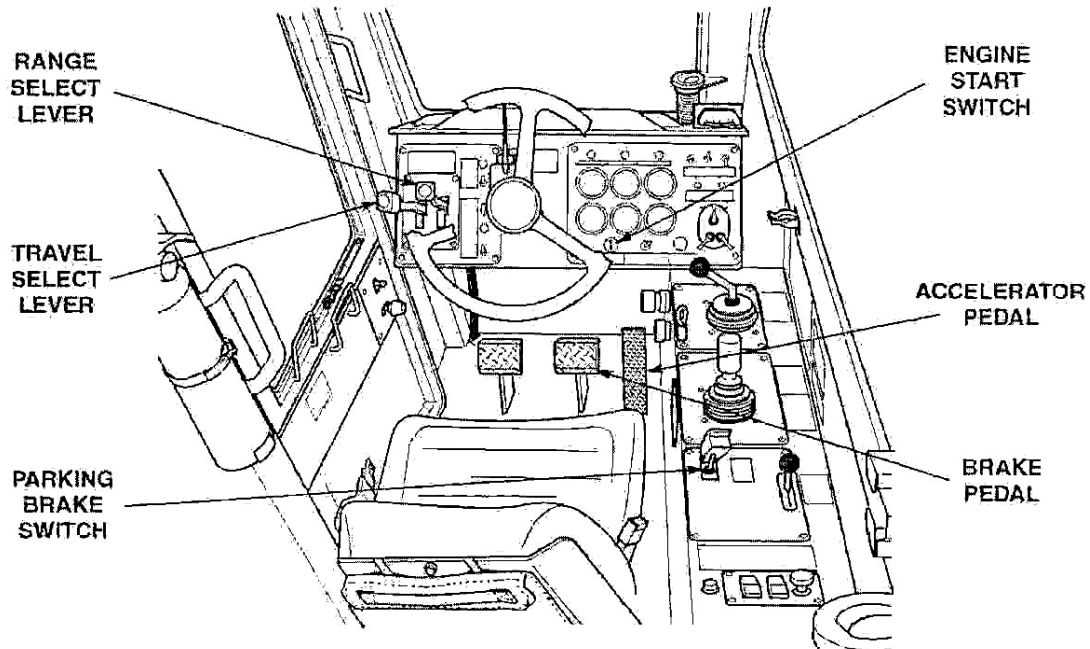

Figure 3-54
1. Start the engine (see Figure 3-54).